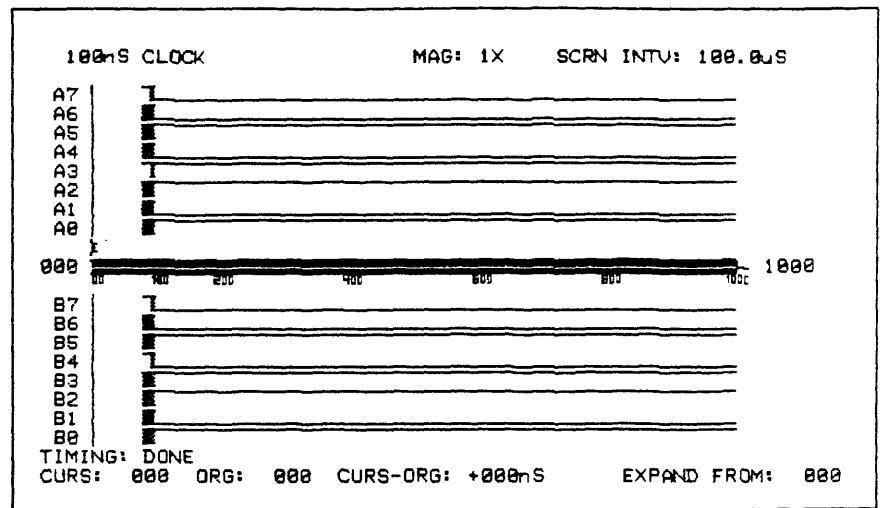

Figure 2-3. Arbitrary timing data collection.
5. Press **F6**, the soft-key labeled **COLLECT**, to take an arbitrary timing data collection. This collection should contain sixteen high or low logic levels as shown in Figure 2-3. Note the momentary prompting message: **WARNING - PLUG IN B PROBE**. (Ignore this message for this basic check.) Note also that the 100 nS sampling rate of the NPC-700 at power on is much faster than the clock rate of the CMOS test card. Therefore, few--if any--logic transitions will be captured. See Section 6.2.2 for additional timing collection examples.